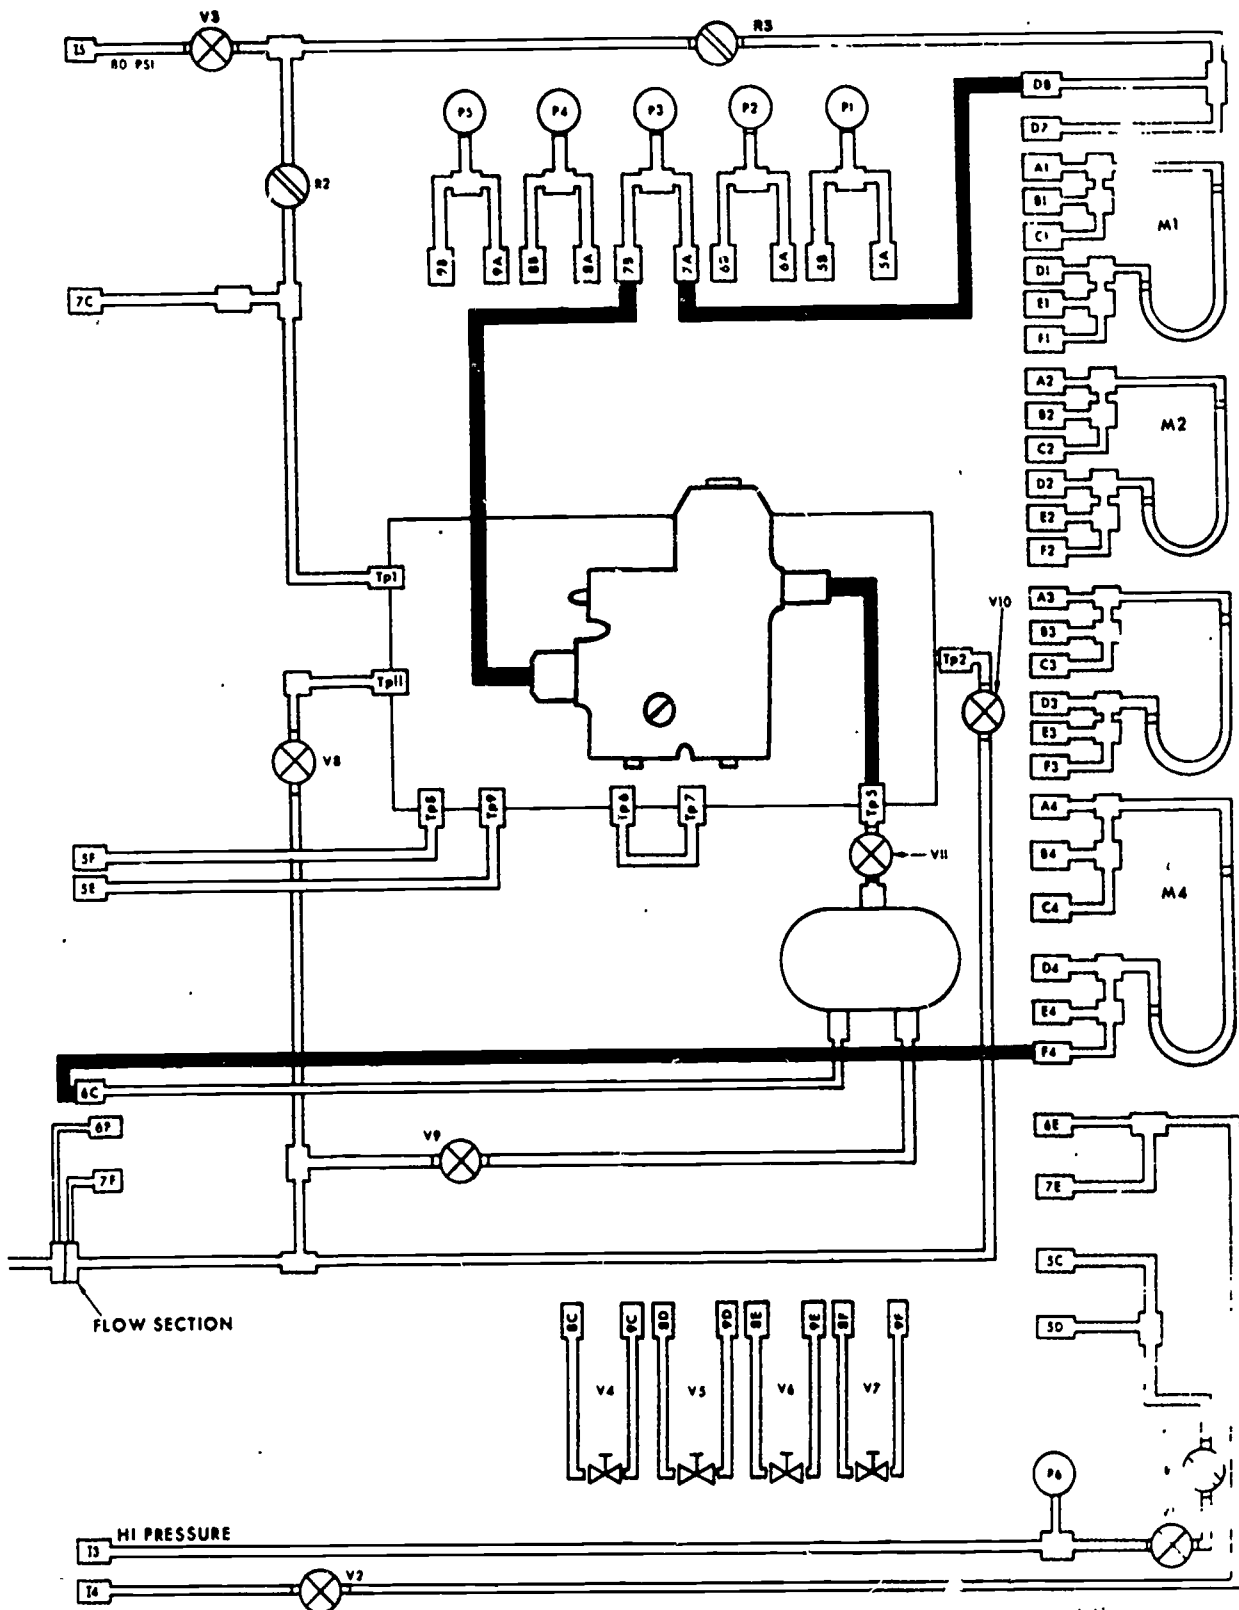

Figure 7. Demand Valve Test Hook-up
8. Refer to figure 7 of this workbook as you connect the anti-G suit valve to the trainer.